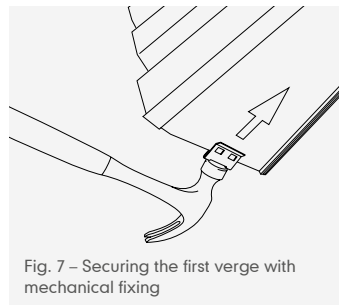

Fig. 7 – Securing the first verge with mechanical fixing
- 8 A gentle hammer tap may be required to assist with this. The spring clip achieves a secure fix at one end by clamping (when engaged fully) to the front of the dry verge (Fig. 7).